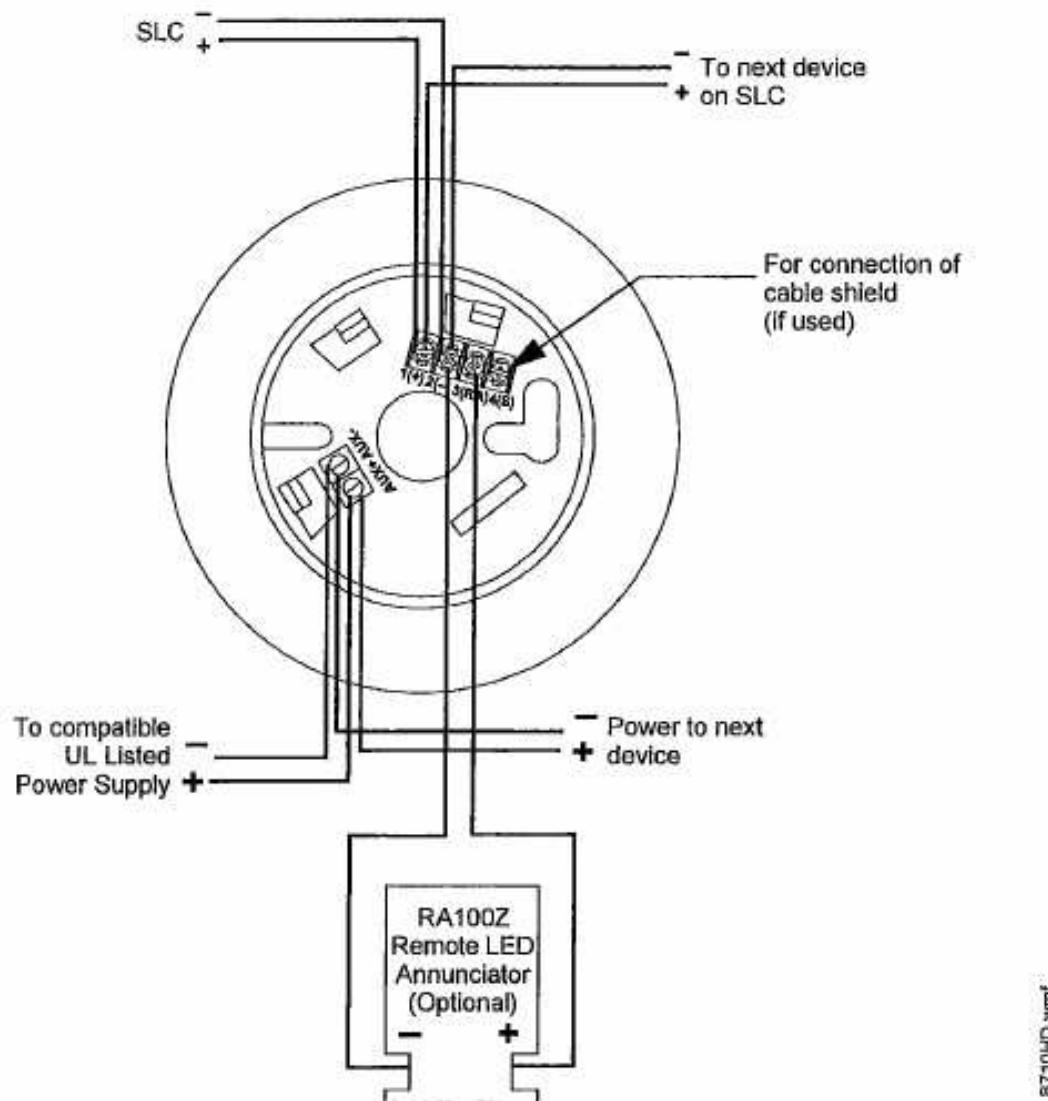

Figure 10.3 Wiring of the 14507371-008 Detector Base
- 14507371-008 (FlashScan/CLIP Filtrex base; Figure 10.3)
Figure 10.3 shows typical wiring of the 14507371-008 detector base (for use with a HARSH™ Fil-trex detector) connected to an SLC. An optional RA100Z Remote LED Annunciator is shown connected to the base.